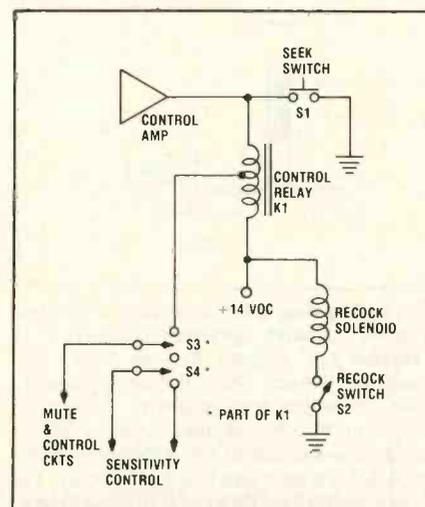

Fig. 9—Simplified schematic diagram of the signal seeker control circuitry.
- Relay K1 (Fig. 9) pulls in, freeing the governor gear train, and the clutch is disengaged
• If the rack reaches the high-end of the dial without encountering a station signal, switch S2 (Fig. 9) is tripped, energizing the solenoid
• Because the plunger of the solenoid is ganged to the rack and PTM, both are abruptly yanked back to the low-end stop and the power spring is recocked. Switch S2 (Fig. 9) is turned off when the rack reaches the low-end stop.